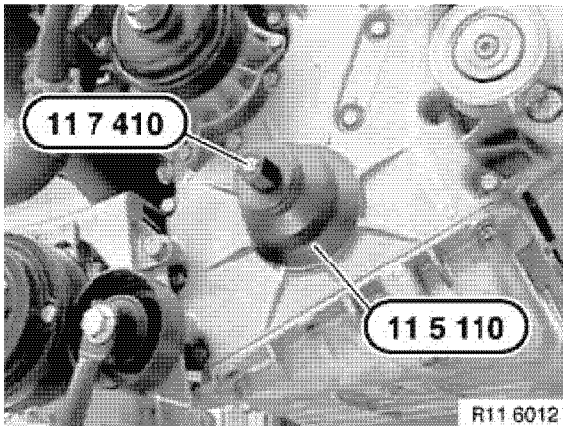
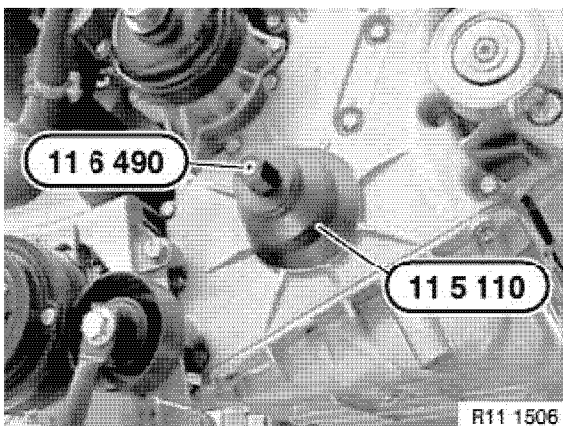

Figure 5-125
Figure 5-126
9. Install center screw OEM No. 11 7 410 (4BY3) or 11 6 490 (6BY3) in end of crankshaft (Figure 5-125 or Figure 5-126).